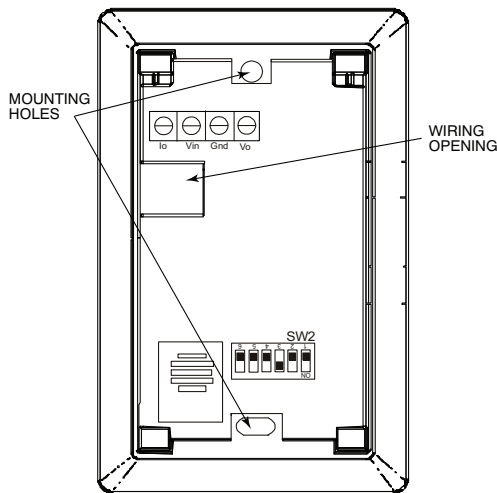

Fig. 52 - Space Relative Humidity Sensor Installation
If the sensor is installed directly on a wall service, install the humidity sensor using 2 screws and 2 hollow wall anchors (field supplied). Do not over tighten screws. See Fig. 52.
1. At the sensor, remove 4 inches from the jacket from the cable. Strip ¼ inch of insulation from each conductor. Route the cable through the wire clearance opening in the center of the sensor. See Fig. 52.